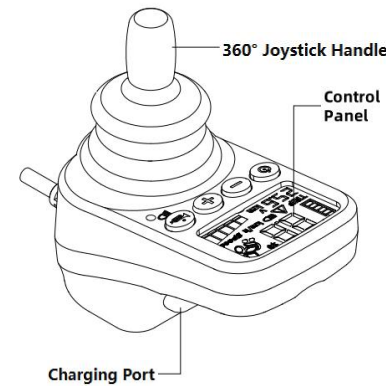

Figure 16
4.3.1 Controller Function Description: (See Figures 16 and 17)